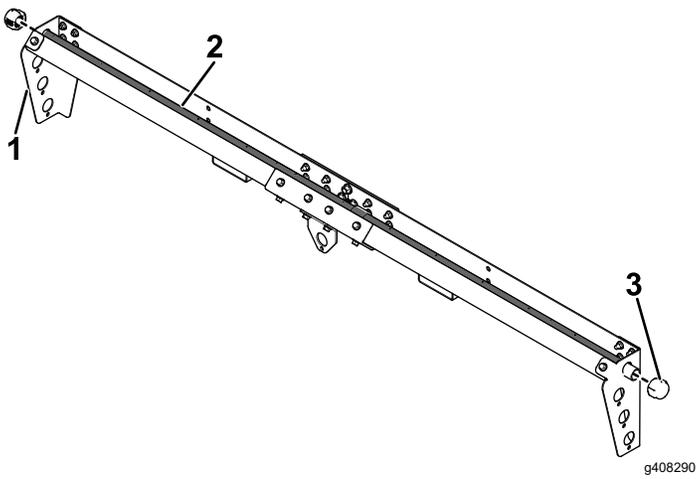

Figure 18
4. Loosely install the left shroud end onto the boom shroud with 5 hex bolts (3/8 x 1 inch) and 5 locknuts (3/8 inch) as shown in Figure 18.